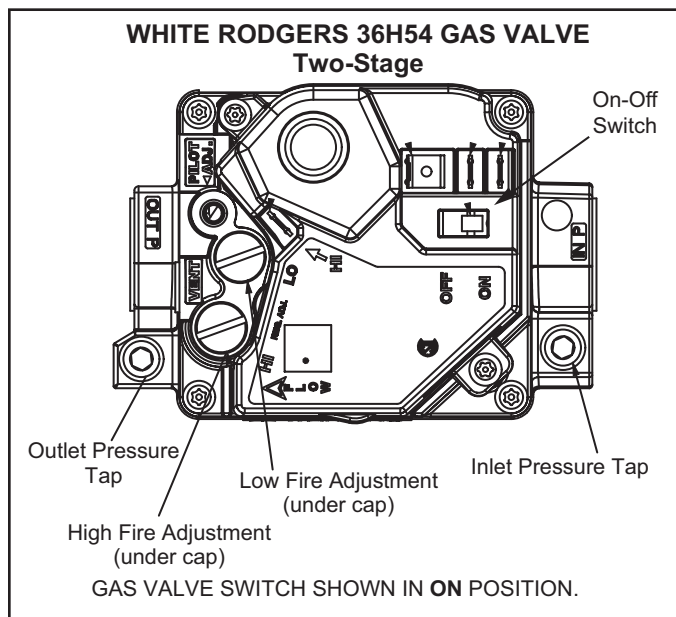
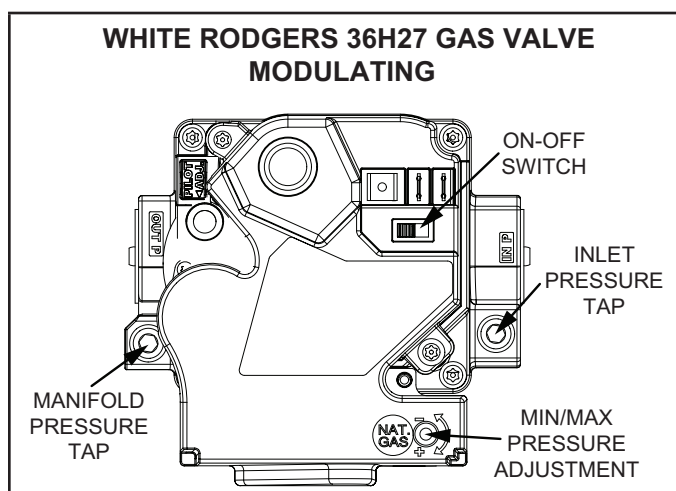

Figure 36
Figure 37
5. Move gas valve switch to “OFF”. Do not force. See Figure 36 and Figure 37.
6. Wait five (5) minutes to clear out any gas. If you then smell gas, **STOP!** Immediately call your gas supplier from a neighbor's phone. Follow the gas supplier's instructions. If you do not smell gas, go to the next step.
7. Move gas valve switch to “ON”. Do not force. See Figure 36 and Figure 37.
4. MOVE gas valve switch to “OFF”. Do not force. See Figure 36 and Figure 37.